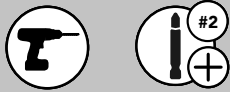

FIG. 5
Remove the paper template and use (4) 3/4" x #8 oval head screws to attach the universal bracket to the bottom of the cabinet (See Figure 5).